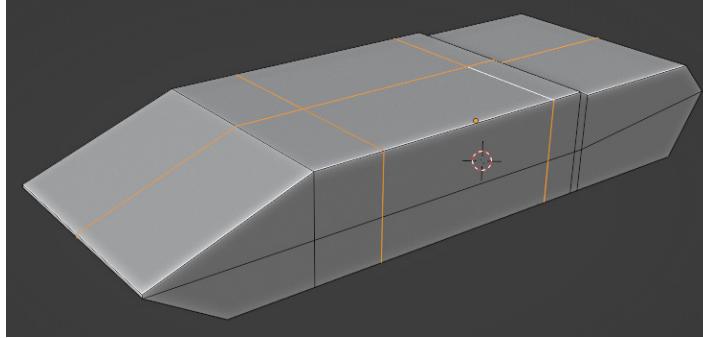

Figure 7.7 – Even more loop cuts
7. Add three more loop cuts to the object, as shown in *Figure 7.7*: